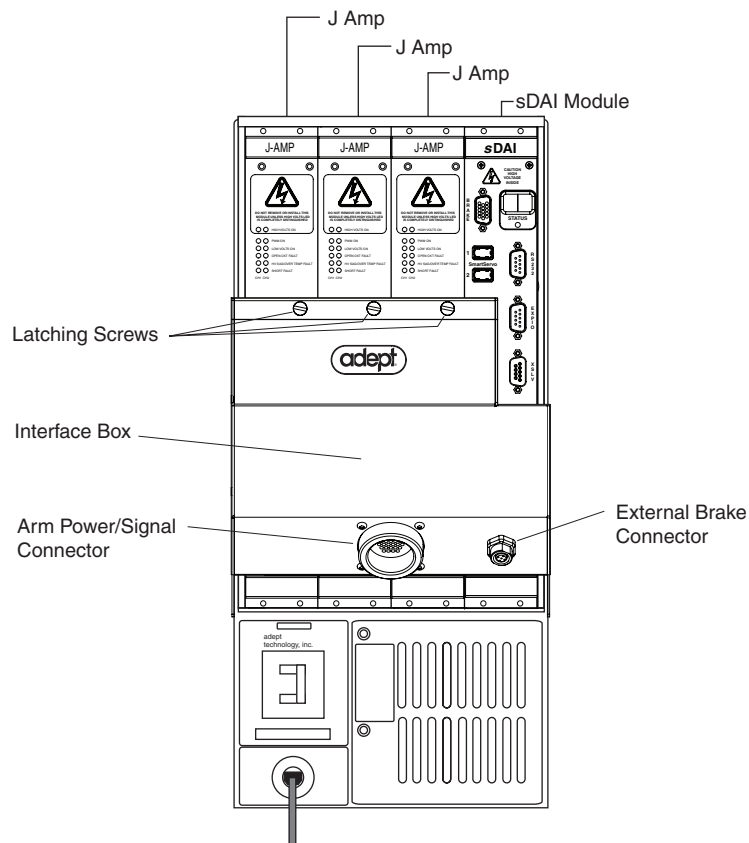
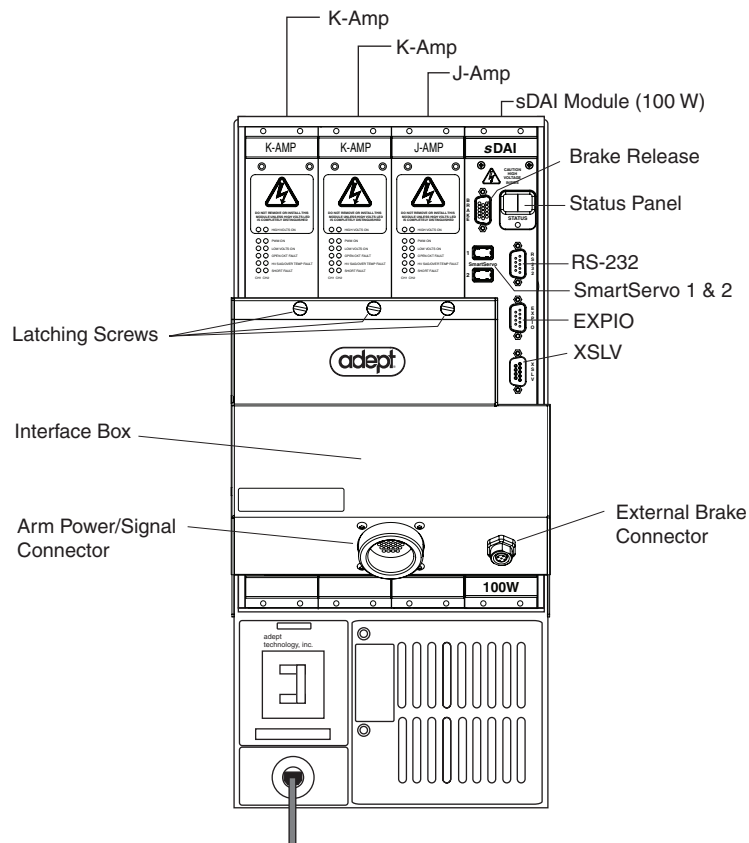

Figure 3-1. Adept PA-4 Power Chassis with sDAI Module (Viper s650/s850 Robots)
Figure 3-3. Adept PA-4 Power Chassis with sDAI 100W Module (Viper s1300 Robots)
The circular Arm Power/Signal connector on the PA-4 shipped with Viper s650/s850, Viper s1300, and Cobra s850 systems carries all the motor power and encoder feedback connections between the controller and the robot. See Figure 3-1 on page 26 and Figure 3-3 on page 28.
The External Brake connector's wire list and pinouts are shown below. See Figure 3-1 on page 26 for the connector's location.
2. Loosen the 3 latching screws at the top of the Interface Box. See Figure 3-1 on page 26.